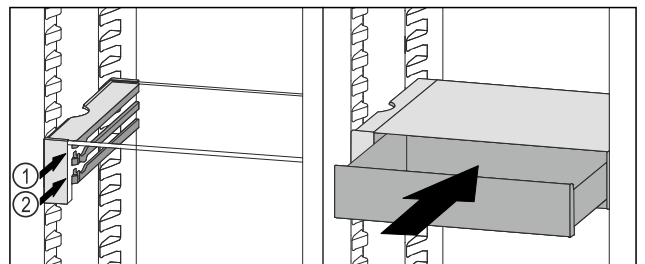

Fig. 133
- Place the VarioSafe drawer behind the stoppers on desired rib Fig. 133 (1) or Fig. 133 (2).